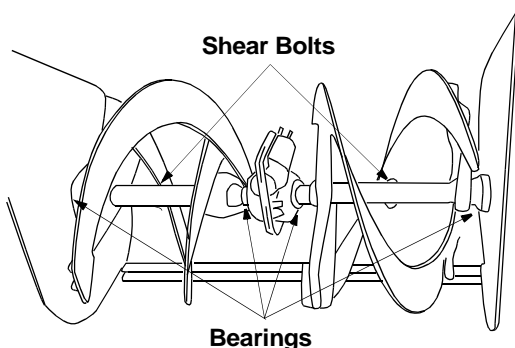

Figure 22
- At least once a season, remove shear bolts on auger shaft. Oil or spray lubricant inside shaft and lubricate the auger bearings. See Figure 22.
- The augers are secured to the spiral shaft with two shear bolts and hex lock nuts. See Figure 22. If you hit a hard foreign object or ice jam, the snow thrower is designed so that the bolts may shear.